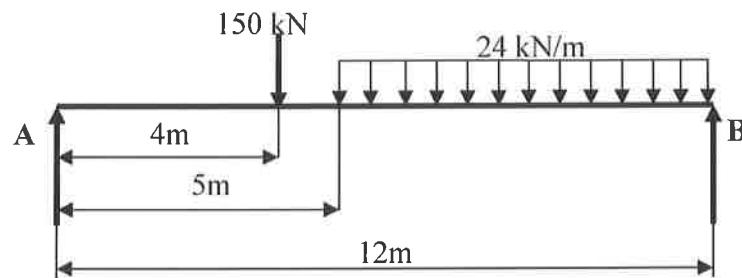

Figure Q8
8. The beam AB is simply-supported at A and B and is loaded as shown in Figure Q8. Taking $EI = 215 \text{ GNm}^2$ for the beam, determine the slope and vertical deflection at each quarter point of the span of the beam. (0.006 rad, 22.75 mm; -0.025 rad, 31.6 mm; -0.0058 rad, 20.03 mm)